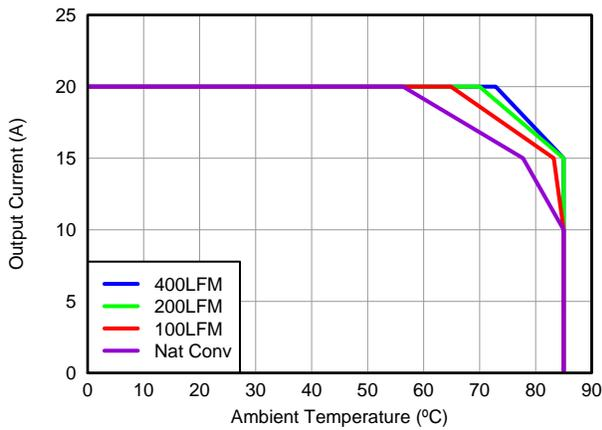
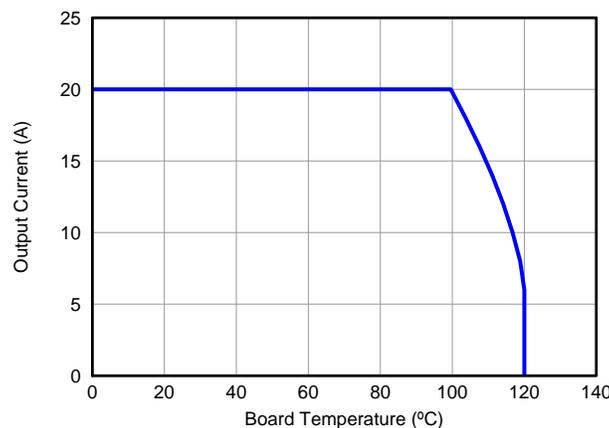

Figure 3. Safe Operating Area – PCB Vertical Mount⁽¹⁾
Figure 5. Typical Safe Operating Area⁽¹⁾
The SOA curves in the CSD87330Q3D data sheet provides guidance on the temperature boundaries within an operating system by incorporating the thermal resistance and system power loss. Figure 3 to Figure 5 outline the temperature and airflow conditions required for a given load current. The area under the curve dictates the safe operating area. All the curves are based on measurements made on a PCB design with dimensions of 4" (W) x 3.5" (L) x 0.062" (T) and 6 copper layers of 1 oz. copper thickness.